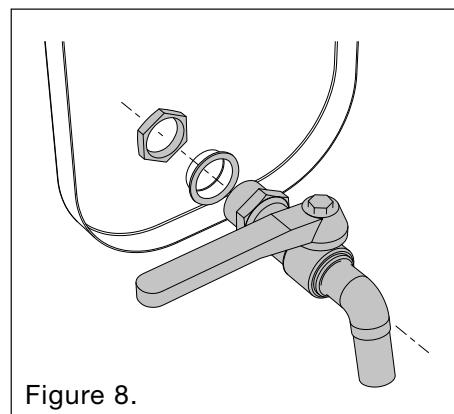

Figure 8.
**Figure 8.** Place the faucet so that the threads are visible on the inside of the tank. Place the faucet so that the threads are visible on the inside of the tank. Place the washer on